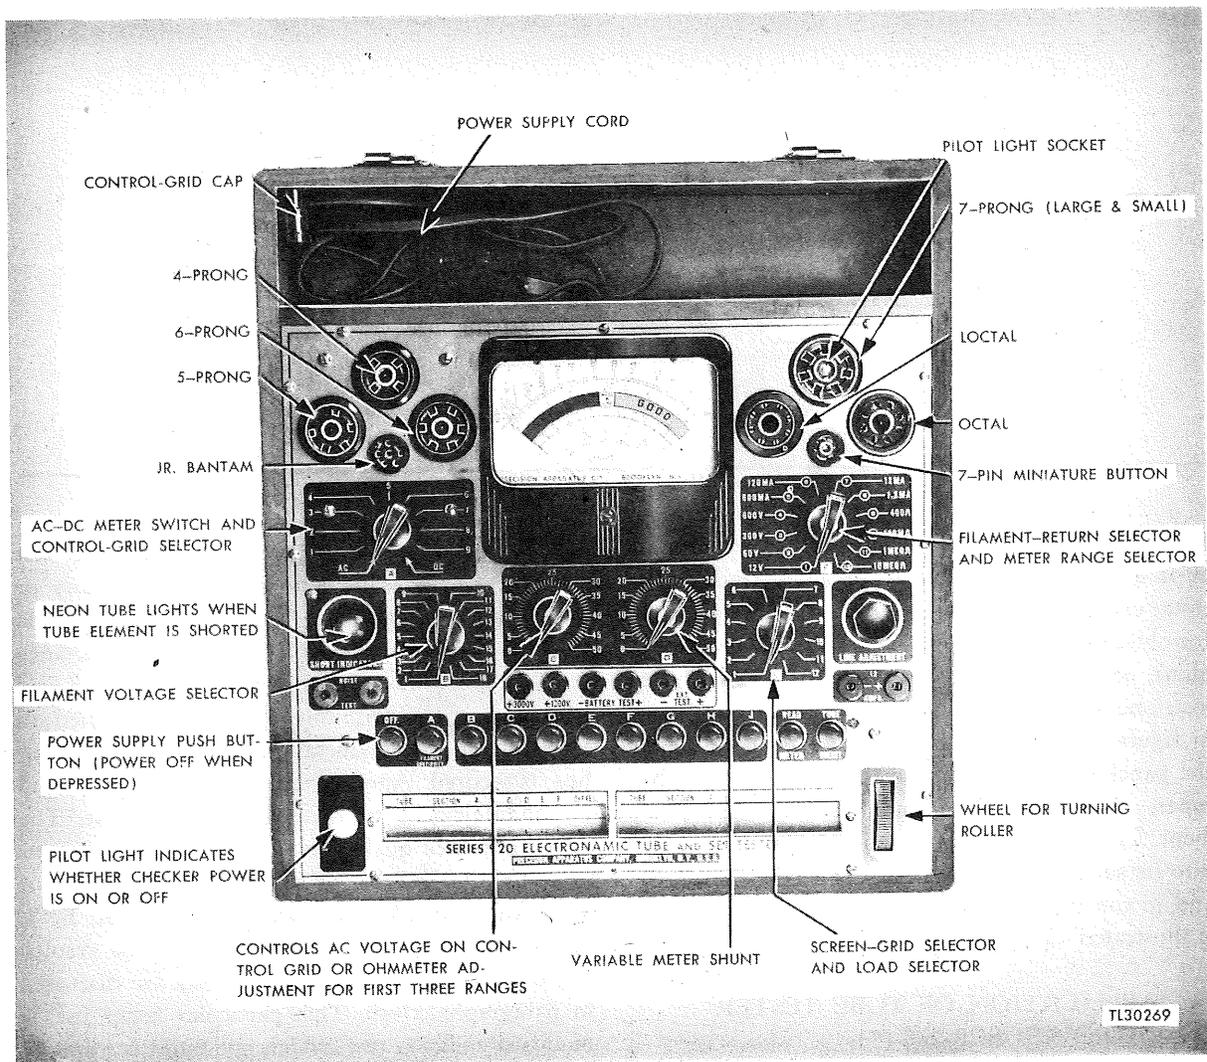
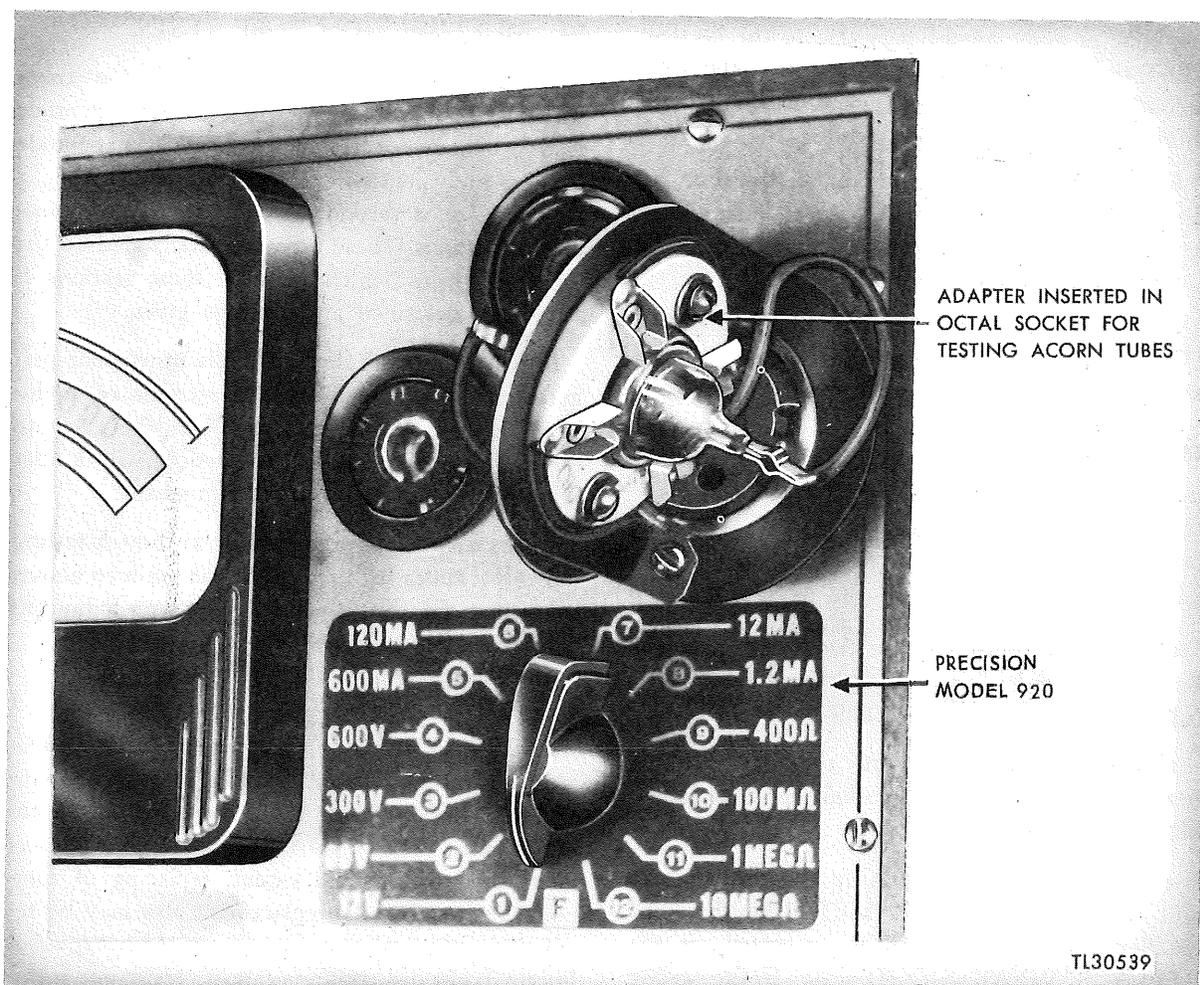

Figure 15. Tube Checker I-157, Precision model 920, panel view.
Figure 16. Tube Checker I-157, Precision model 920, acorn-tube adapter.
52. **GENERAL.** Precision model 920 tube checker is a modern, push-button operated, radio-tube tester combined with rotary-range selective systems for obtaining measurements of a-c and d-c voltages, ohms, decibels, and current. The front view of the instrument is shown in figure 15 and the schematic in figure 17. Since the base sockets available upon the panel do not include sockets for the acorn-tube types, a special adapter is supplied with the instrument. The manner in which this adapter is plugged into its socket, which is located immediately above and to the right of the filament-selector switch F, is illustrated in figure 16.
a. *Limitations.* (1) Tubes that appear good in tests still may not operate properly in the circuits to which they are applied. Such tubes should be replaced.